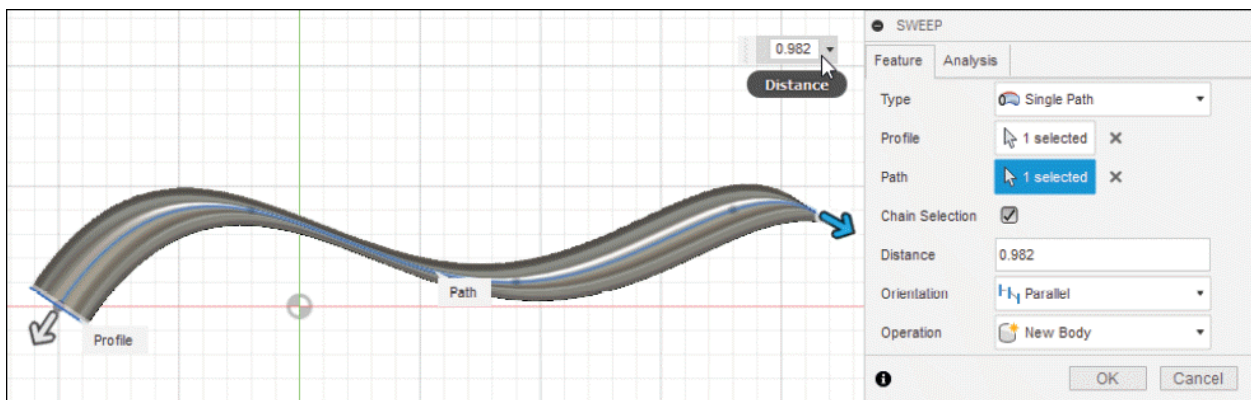

Figure-62. Parallel orientation
- **Parallel** option of **Orientation** drop-down creates sweep feature in such a way that the profile section is always parallel to its original orientation; refer to Figure-62.